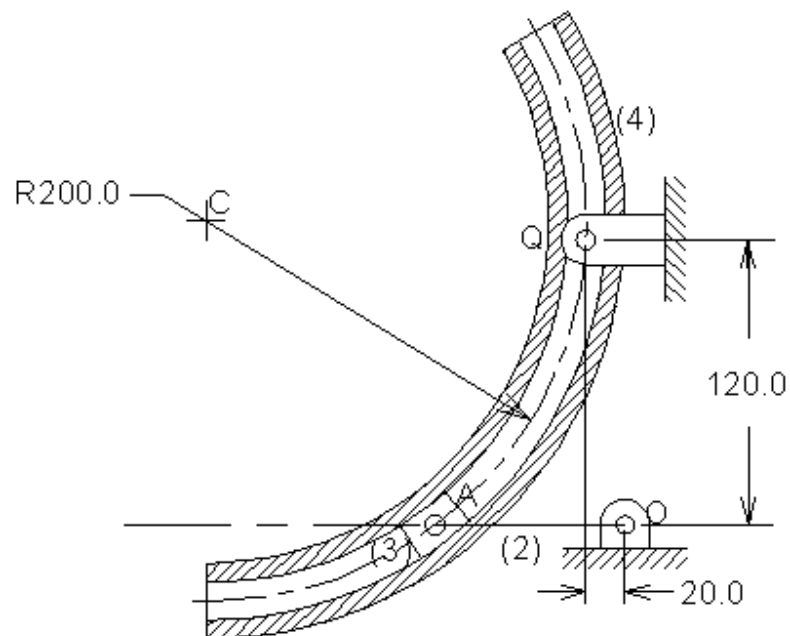

Figure P2.39
2.39 In Figure P2.39, link OA is 100 mm long, rotates at a uniform speed of 15 rad./s counter clockwise. Find the angular velocity and the angular acceleration of link (4).